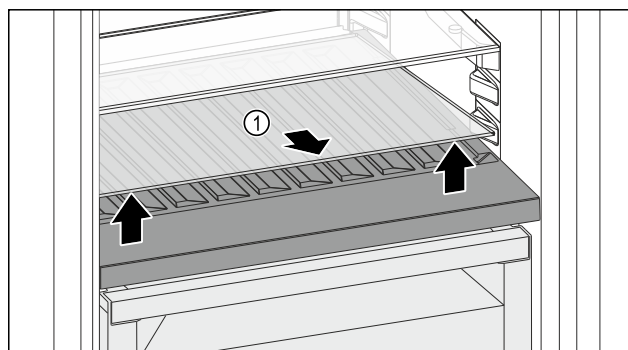

Fig. 133
- ▶ Lift the glass shelf Fig. 133 (1) in the front at the recess and pull it out.
- ▶ Store the glass shelf Fig. 133 (1) somewhere safe outside of the appliance.